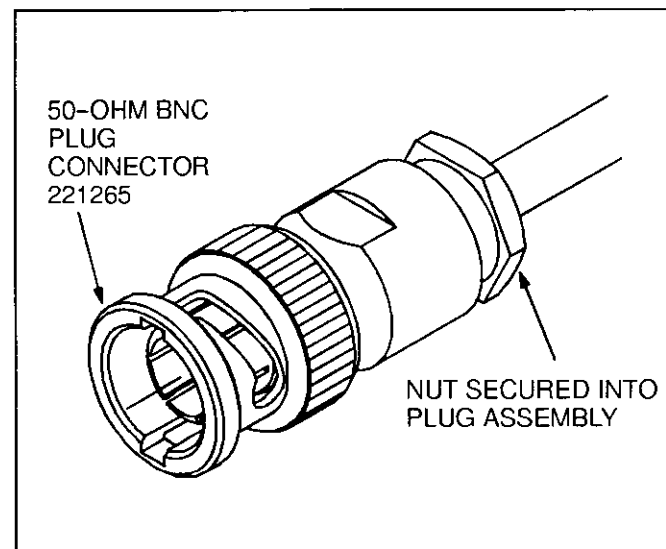

Fig. 8
7. Thread nut into plug assembly until it is secured. Recommended cable clamp tightening torque is 2.8 - 3.4 N•m [25 - 30 in.-lb.], using a 7/16-in. wrench. See Figure 8.